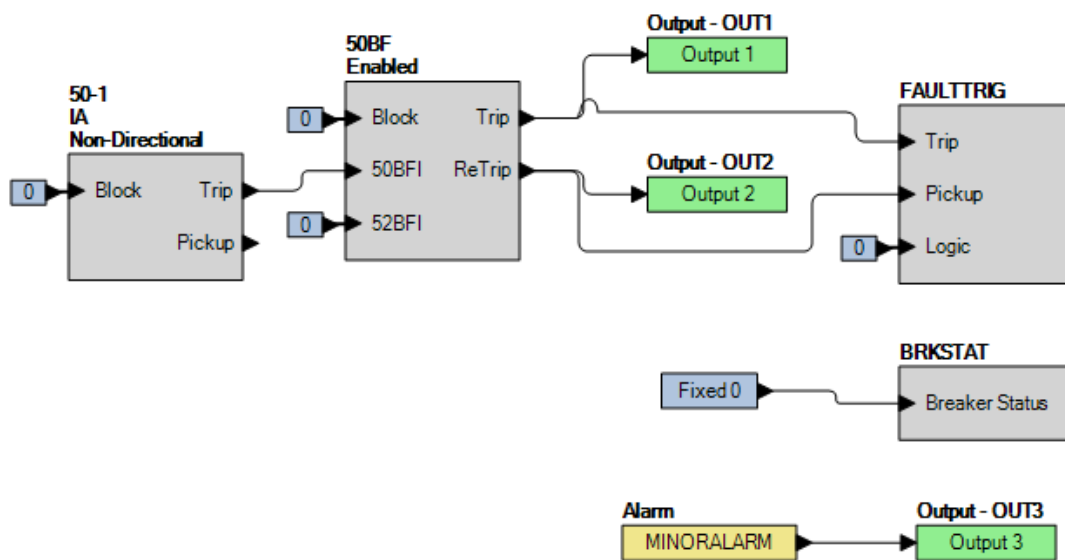

Figure 63-2. BESTlogicPlus Settings (BF150 Current Supervised BE1-11f Trip Initiate)
Step 8: Use BESTCOMSPlus to configure the BESTlogicPlus programmable logic shown in Figure 63-2.